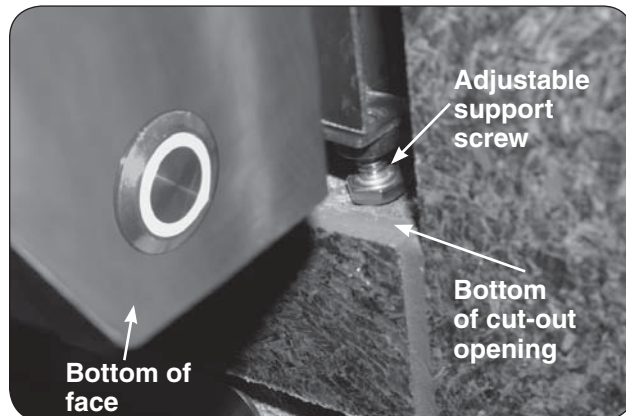

Fig. 19-1 Adjust support screws
6. Rotate the adjustable support screws to the left to raise and to the right to lower the respective side of the appliance grill. Use a $\frac{7}{16}$ " open-end wrench as needed. See Fig. 19-1.